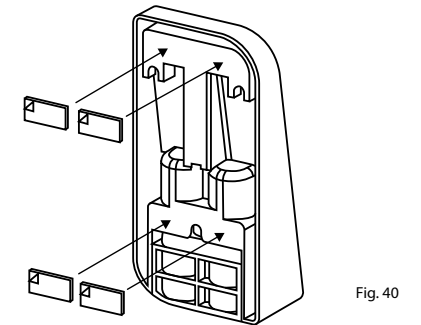

Fig. 40
- 2 Attach the enclosed adhesive pads to the positions shown in the illustration and peel off the backing strips (Fig. 40).